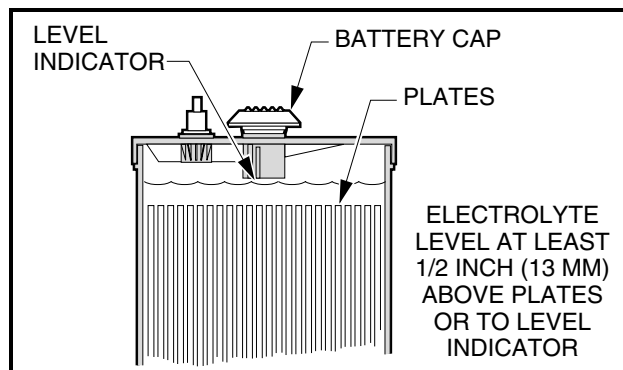

Figure 22 Electric Battery Electrolyte Level
2. The electrolyte level in the batteries should be checked weekly (**Figure 22**). Add water only after charging unless the electrolyte level is below the top of the plates. In this case, add just enough water to cover the plates, charge and then check the level again. Never charge batteries if plates are exposed above electrolyte level. For best battery life, add only distilled water. **See following NOTE.**